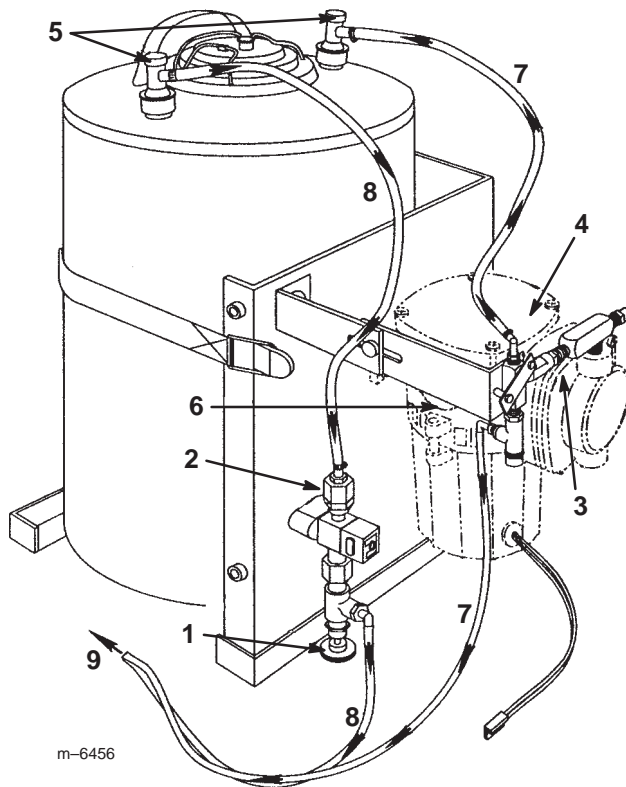

Figure 19
8. For the initial operation, open the foam density adjustment valve 1/8 to 1/4 turn (Fig. 19).